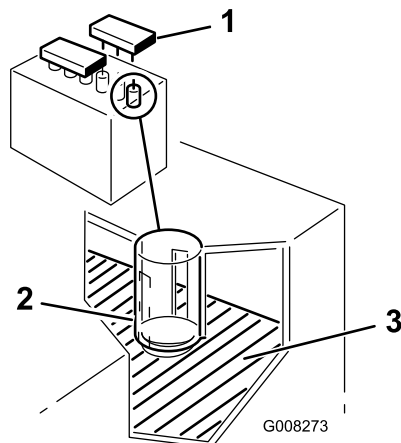

Figure 34
2. Remove the filler caps. If the electrolyte is not up to the lower part of the tube (Figure 34), add the required amount of distilled water; refer to Adding Water to the Battery.
2. Remove the filler caps (Figure 34).
3. Slowly pour distilled water into each battery cell until the level is up to the lower part of the tube (Figure 34).